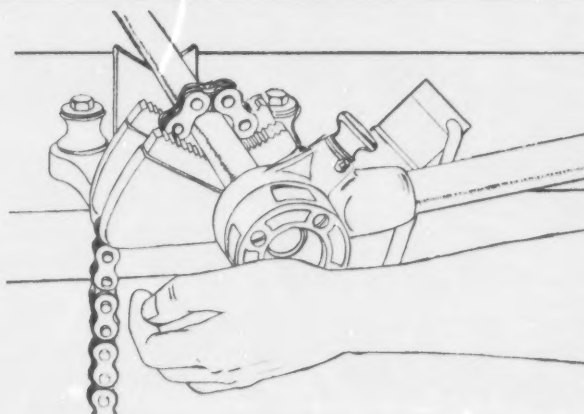

Figure 7-26. Pipe Threader Requiring Applied Force
c) Some threaders, as in Figure 7-26, require that considerable force be applied to the face to get the dies started on the pipe: